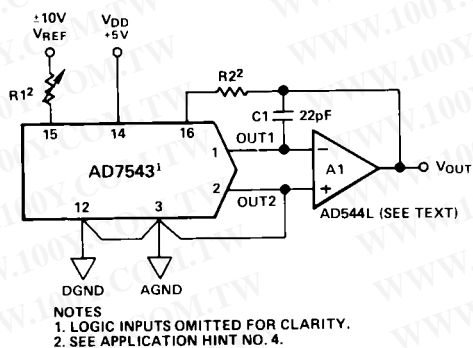
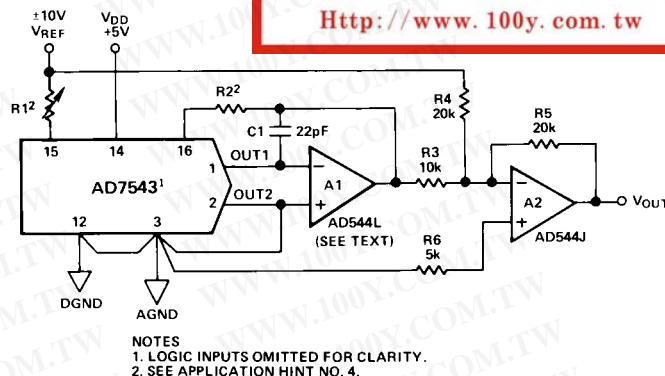

Figure 6. Unipolar Binary Operation (2-Quadrant Multiplication)
Figure 7. Bipolar Operation (4-Quadrant Multiplication)
Gain is defined as the ratio of the DAC's Full Scale output to its reference input voltage. An *ideal* AD7543 would exhibit a gain of $-4095/4096$. Gain error is adjustable using external trims as shown in Figures 6 and 7.
Register B can be asynchronously reset to 0000 0000 0000 by bringing CLR momentarily LOW. This allows the DAC output voltage to be set to a known condition, thus simplifying system initialization procedure. When operating the AD7543 in the unipolar circuit of Figure 6, a CLEAR causes the DAC output voltage to equal 0V. When using the bipolar circuit of Figure 7, a CLEAR causes the DAC output to equal -VREF.
Figure 6 shows the analog circuit connections required for unipolar binary (2-quadrant multiplication) operation. The logic inputs are omitted for clarity. With a dc reference voltage or current (positive or negative polarity) applied at pin 15, the circuit is a unipolar D/A converter. With an ac reference voltage or current (again of + or - polarity) the circuit provides 2-quadrant multiplication (digitally controlled attenuation). The input/output relationship is shown in Table III.
Table III. Unipolar Binary Code Table for Circuit of Figure 6
Table IV. Bipolar Code Table for Offset Binary Circuit of Figure 7
Figure 7 and Table IV illustrate the circuitry and code relationship for bipolar operation. With a dc reference (positive or negative polarity) the circuit provides offset binary operation. With an ac reference, the eleven LSBs provide digitally controlled attenuation of the ac reference while the MSB provides polarity control.
4. GAIN TEMPERATURE COEFFICIENTS: The gain temperature coefficient of the AD7543 has a maximum value of $5\text{ppm}/^\circ\text{C}$ and a typical value of $2\text{ppm}/^\circ\text{C}$. This corresponds to gain shifts of 2.0LSBs and 0.82LSBs respectively over a 100°C temperature range. When trim resistors are used to adjust full-scale range as shown in Figures 6 and 7 the temperature coefficient of R1 and R2 should be taken into account. It may be shown that the additional gain temperature coefficients introduced by R1 and R2 may be approximately expressed as follows:—